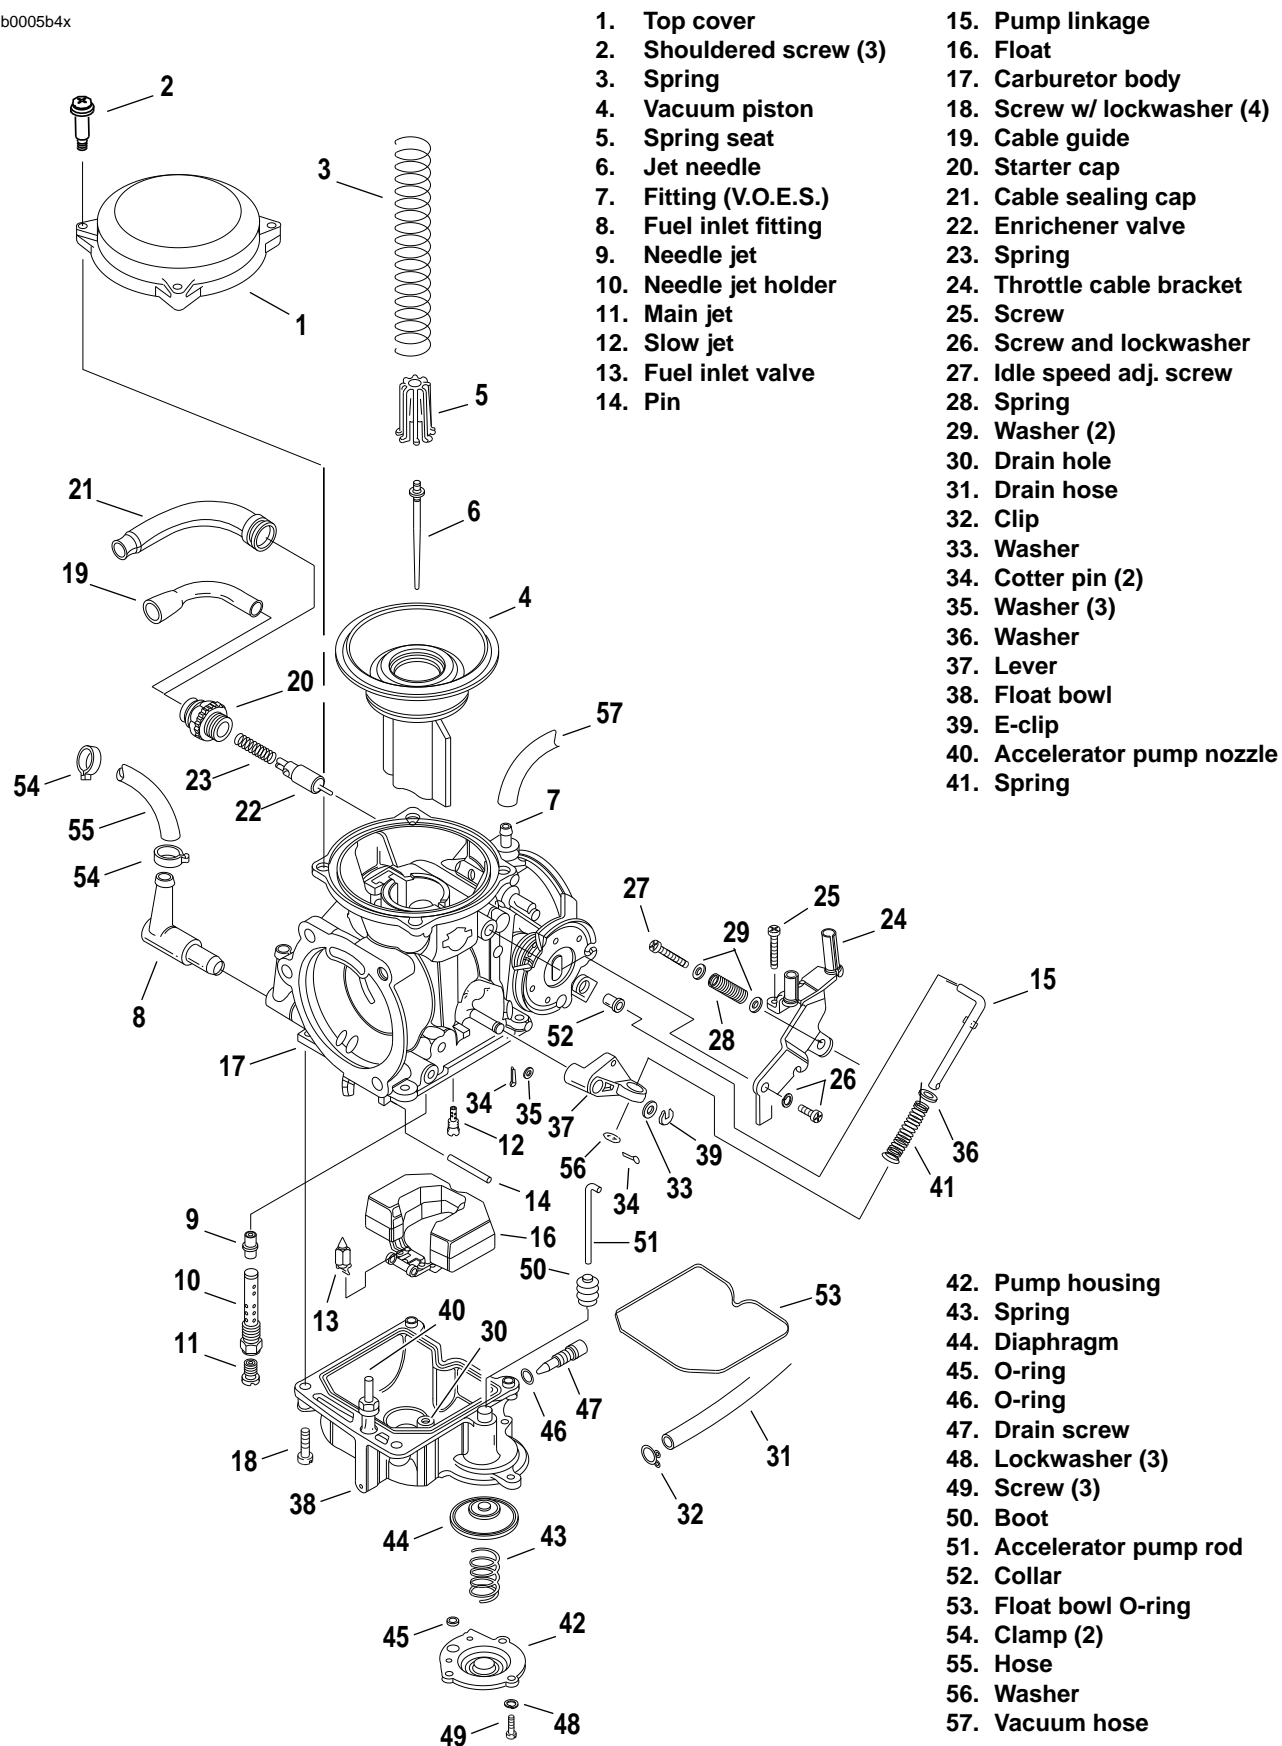

Figure 4-14. Constant-Velocity (C.V.) Carburetor
1. See Figure 4-14. Remove screws (26, 25) and throttle cable bracket (24).
2. Remove three shouldered screws (2). Remove top cover (1) and spring (3).
3. Lift out vacuum piston (4) with jet needle (6) and spring seat (5). Remove loose parts from vacuum piston.
1. See Figure 4-14. Remove four screws and lockwashers (18). Remove float bowl assembly (38).
2. Remove pin (14), float (16) and fuel inlet valve (13).
3. Back out main jet (11) and needle jet holder (10). Needle jet (9) is free to be removed from bottom end of passage.
4. Insert thin-bladed screwdriver into slow jet passage to remove slow jet (12).
1. See Figure 4-14. Hold vacuum piston up to strong light. Examine diaphragm at top of vacuum piston (4) for evidence of pinching, holes or tears. Replace if damaged.
2. Examine vacuum passage through bottom of piston (4). Clean passage if restricted.
3. Examine spring (3) for stretching, crimping, distortion or damage. Replace if necessary.
4. Examine slide on sides of piston (4) to be sure surface is smooth and clean. Clean or buff out any rough surfaces.
5. Examine jet needle (6) for evidence of bending or damage. Needle should be straight; surface of taper should be smooth and even.
6. Check float bowl O-ring (53) for any distortion or damage. Replace if seating surfaces are damaged.
7. Examine fuel inlet valve (13) and inlet valve seat. Clean with carburetor cleaner. Replace if seating surfaces are damaged.
8. Clean slow jet (12) with carburetor cleaner. Check to be sure all orifices are open.
9. Check enrichener valve (22). Be sure needle guide is clean, straight and undamaged. Check composition seating surface for wear or damage. Replace if damaged.
11. Clean needle jet (9). Replace if damaged.
1. See Figure 4-14. Inspect the accelerator pump diaphragm (44) for holes, cracks or deformation. Replace as necessary.
2. Replace the accelerator pump rod (51) if it is bent; replace the boot (50) if cracked.
1. See Figure 4-14. Place jet needle (6) through center hole in vacuum piston (4). Place spring seat (5) over top of needle.
2. Insert vacuum piston (4) into carburetor body. The slides on the piston are off-center and the piston will fit into the slide track grooves one way only. If piston does not fit, rotate 180°.
3. Check to be sure diaphragm is seated evenly into groove at top of carburetor body. Place spring (3) over spring seat (5), and carefully lower top cover (1). Keep spring straight while lowering top cover.
4. After top cover (1) is seated, hold top cover while lifting vacuum piston (4) upward. Piston should raise to top smoothly. If piston movement is restricted, spring (3) is cocked; lift up top cover, then lower carefully, keeping spring coils straight.
5. Once top cover is installed correctly, install three shouldered screws (2). Place throttle cable bracket (24) in position with idle screw (27), resting on top of throttle cam stop. Install body screw and washer (26) first, then top screw (25) to prevent bending bracket or throttle cam.
1. See Figure 4-14. Thread slow jet (12) into slow jet passage with narrow-bladed screwdriver.
2. Turn carburetor upside down. Place needle jet (9) in main jet passage with needle passing through center hole. Be sure end of jet with larger opening and chamfered surface enters passage first.